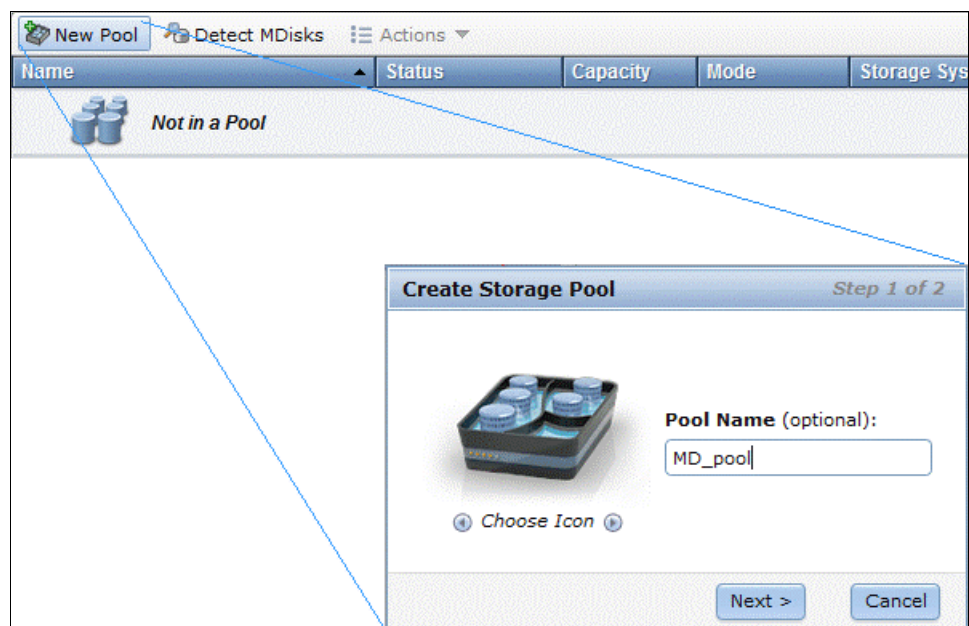

Figure 10-7 Create pools
2. For each pool, click **New Pool** to create an empty pool. Insert a name for the pool, such as MD_pool or UD_pool. (Figure 10-7). Click **Next** to continue with the pool creation process.